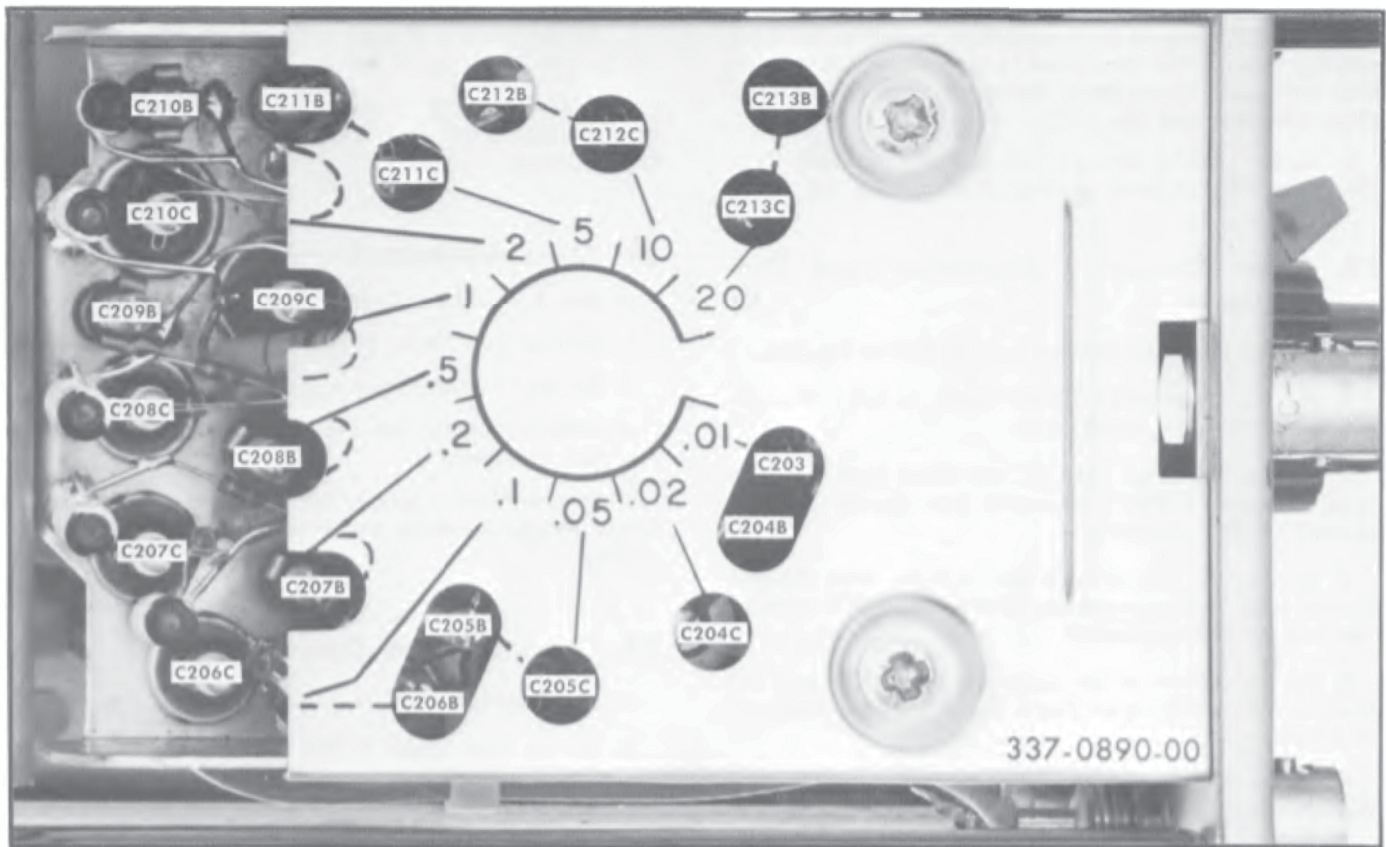

Fig. 6-10. Channel 2 attenuator input time constant adjustments.
- g. ADJUST—Refer to the appropriate column in Table 6-3 and Fig. 6-10 for the components to be adjusted for an optimum square cornered square-wave having less than 1% of overshoot, rounding and tilt.
j. ADJUST—Refer to the appropriate column in Table 6-3 and Fig. 6-10 for the component to be adjusted for an optimum flat-topped square-wave having less than 1 % of overshoot, rounding and tilt.